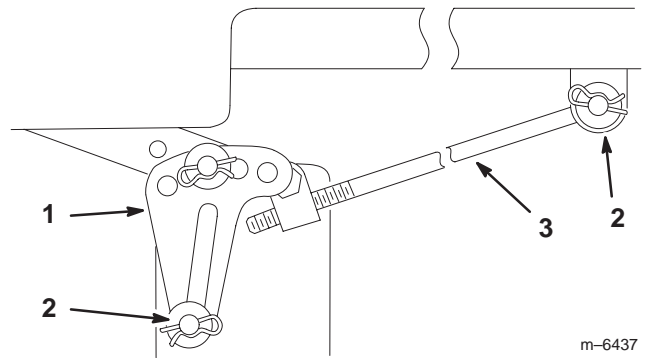

Figure 44
5. Remove the hairpin cotter and washer from the adjusting rod (Fig. 44) on each side of the mower.
6. On each side of the mower, remove the hairpin cotter and washer at the mower leveling brackets (Fig. 44).
5. Attach the adjusting rod to the tractor with the washer and hairpin cotter (Fig. 44) on each side of the mower.
6. Slide the leveling brackets onto the mounting pins and secure them with the washers and hairpin cotters (Fig. 44).